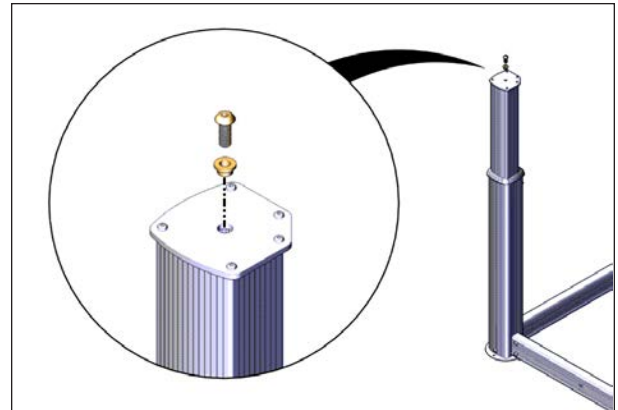

FIGURE 61: FASTEN THE SLEEVE TO THE JACK
22. Install the 3/8" x 1" Allen screw with a 7/32" (5.5 mm) socket previously removed from the jacks, with the smaller diameter of the bushing facing down for each post see Figure 61.